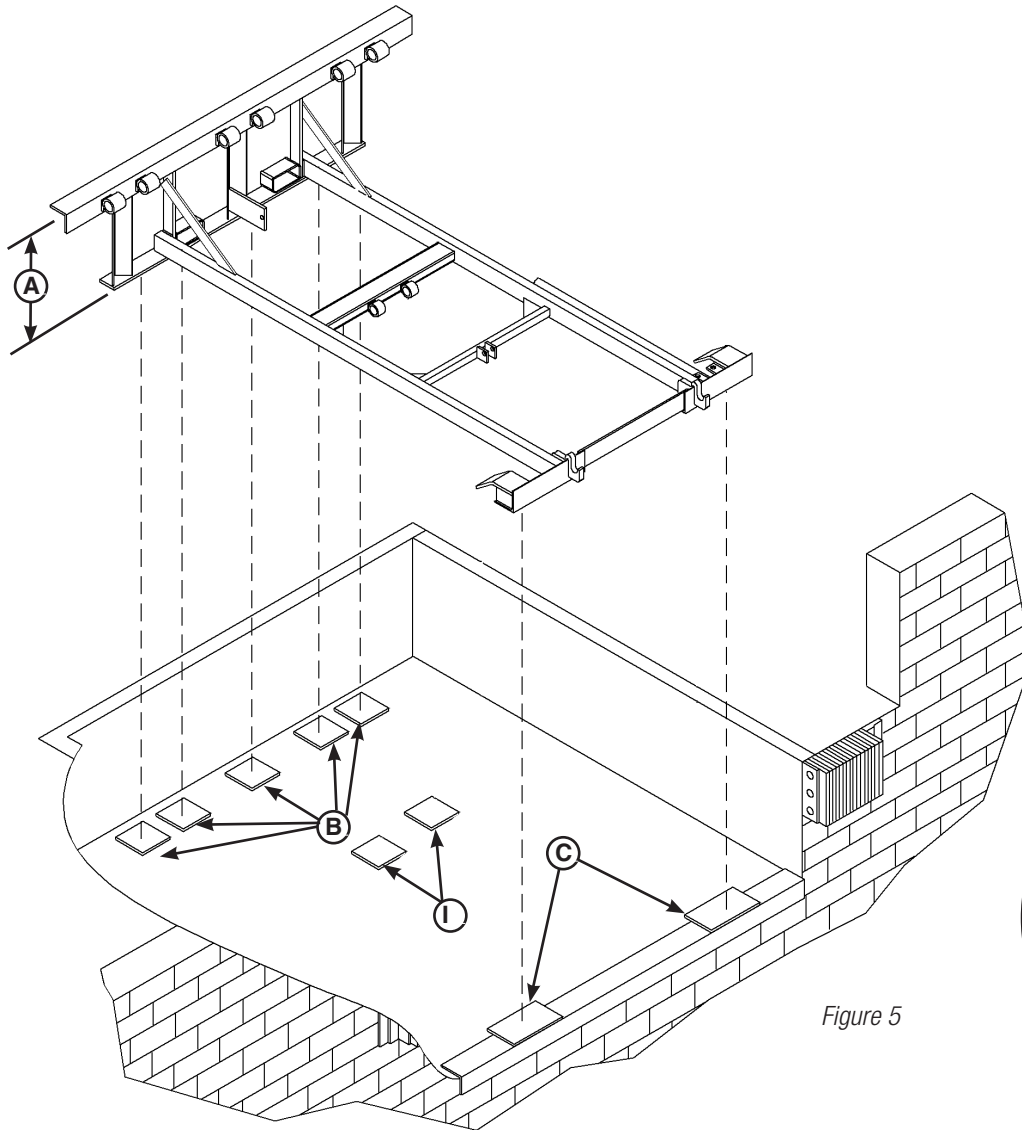
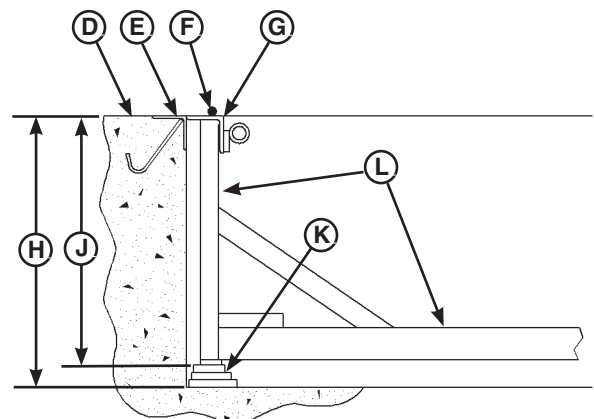

Figure 5
Figure 8
1. Determine height of shim stack (K) for each shim location (B) by performing the following (Figure 5 and Figure 8):
- a. Measure leveler frame height distance (A) (Figure 5).
- b. Measure dock floor-to-pit floor distance (H) at each shim location (B). Write down the dimensions obtained at each location (Figures 5 and 8).
- c. Subtract distance (A) from distance (H) to obtain the shim height. Repeat for each shim location.
**NOTE:** To assist in obtaining an accurate measurement of distance (J), use a string (F) pulled tight across the pit opening, directly over the shim locations (Figure 8).
3. Verify that each shim stack is at the correct height by measuring distance (J) [top of shim stack (K) to dock floor]. Distance (J) must equal the dock leveler height (A) (Figure 8).
4. Put a 1/4 in. (6.6 mm) thick shim at locations (C) (under lip keepers and prop). Make sure shims are larger than frame angle iron so pyramid or stepped stacking method can be used (Figure 5).
**NOTE:** A 1/4 in. (6.6 mm) thick shim at locations (C) is used only as a starting point. The final shim stack height will be determined after the dock leveler is lowered into the pit.
5. Using an appropriate lifting device connected to the lifting brackets, lower dock leveler into the pit so rear hinge frame angle (G) is tight against rear pit curb angle (E) across full width of the leveler frame (Figure 8).
6. Allow rear of dock leveler to rest on the rear shims while keeping the front of the dock leveler level with the dock floor (Figure 8).
7. Add shims at front shim locations (C) so front of dock leveler will stay level with dock floor when leveler is resting fully on shims (Figure 5).
13. Tack weld front shims in place (Figure 5).
22. Install shims under lift arm at locations (C) using the pyramid shimming method. The lift arm pivot must be solidly shimmed the entire length of the lift arm pivot. Make sure the lift arm pivot is level from side-to-side (Figure 5).